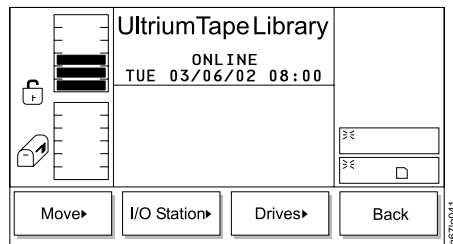

Figure 175. Command Menu
1. From the Main Menu's initial screen, press the button below the **Command** softkey. The Command Menu displays (see Figure 175).